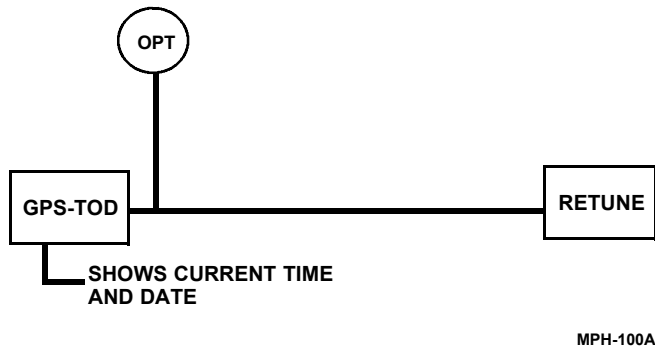

Figure 3-9. GPS and Retune Option Menu Tree
- b. Use the ◀▶ keys to select **RETUNE** and press [ENT]. See Figure 3-9.
- e. Press **[OPT]** to return to the preset screen. See Figure 3-9.